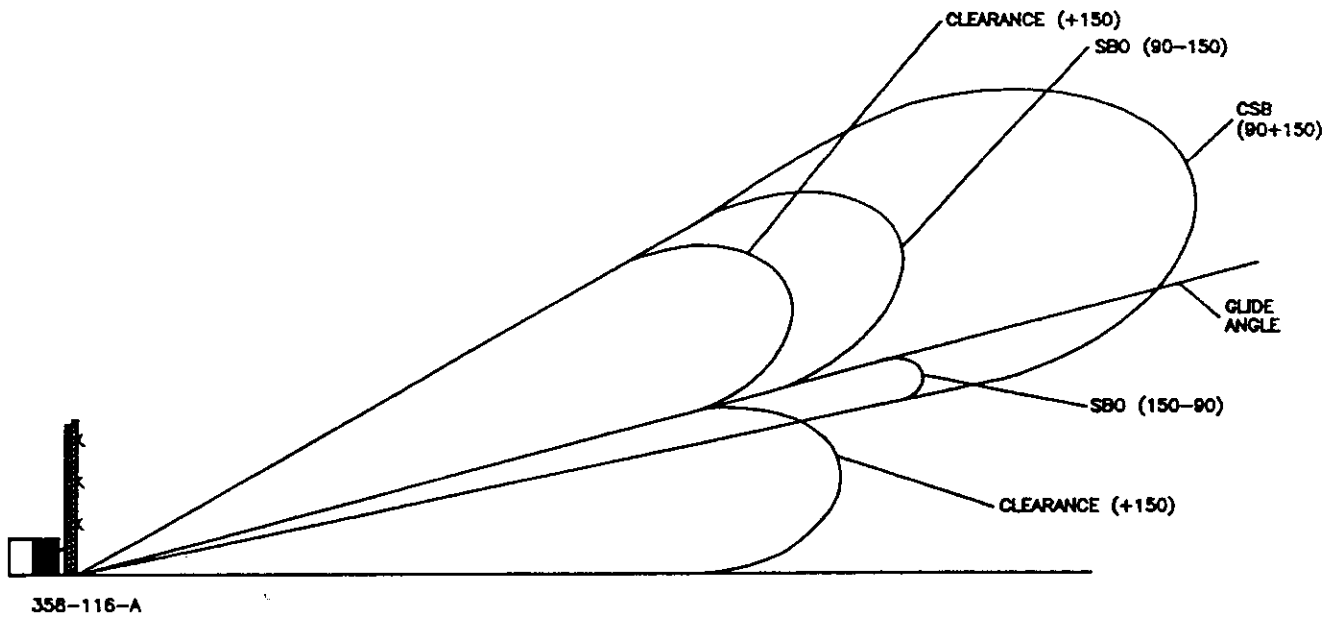

Figure 2-2. Glide Slope Antenna Radiation Pattern
2.2.2.2 Radiation Pattern.- Capture effect is the term used to describe the manner in which a linear receiver detector circuit responds to two rf signals of different frequencies and power levels, which are each within the passband of the receiver. If one signal is stronger than the other, the detector will discriminate against the weaker signal, resulting in a much greater ratio of the detected signals than the ratio of the input signals. See figure 2-2. Capture effect utilizes a scooped-out path-forming (primary) signal that minimizes the effects of reflections from obstructions in the approach area and an auxiliary clearance signal to ensure adequate clearance below path. The frequencies of the two signals are different, but both are within the passband of the aircraft receiver. The aircraft receiver captures the stronger primary signal in the flyable area of the glide path and the stronger clearance signal at small angles below path. The primary signal consists of modulated carrier signals fed to the lower and middle antennas and a sideband-only signal that is fed to all three antennas. Figure 2-3 shows the lobe structure for the carrier signals with a 4-to-1 power ratio. The middle antenna is fed a signal that is 180 degrees displaced from, and one-fourth the power of, the carrier signal fed to the lower antenna. Figure 2-4 shows the lobe structure of the sideband signals from each antenna and the composite lobe structure with a 4-to-1 power ratio. The sbo signal fed to the upper antenna and the sbo signal fed to the lower antenna are displaced approximately 180° from, and one-fourth the power of, the signal fed to the middle antenna. The clearance signal is formed by feeding modulated 150-Hz signals, having the same audio phase as the 150-Hz modulation of the primary carrier, to the upper and lower antennas. The composite clearance lobe has a broad null in the 2.5° to 3.5° area where the aircraft receiver captures the primary navigation signals. This is also a relatively strong signal in the area below the glide angle where the composite primary sideband energy is low. Figure 2-5 shows the clearance signal vertical lobe structure. Figure 2-6 shows the glide slope antenna horizontal radiation pattern. The clearance signal effectively fills the area between 0° and 2° where the receiver will capture the clearance signal. In the area from 2° to 6°, the primary signal is much stronger and the receiver will capture the primary signal to provide the necessary navigation signals.